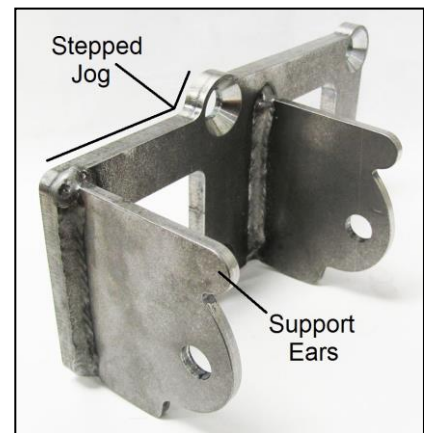

Figure 1 – Driver's side mount
4. Attach the included left and right side Hooker engine brackets to the engine; the proper indexing and left/right orientation of the brackets is achieved by ensuring the profiled clamshell **support ears** are positioned towards the front of the engine and the long **stepped jog** along the outer profile of the base plates are positioned up towards the top of the engine (**Figure 1**).